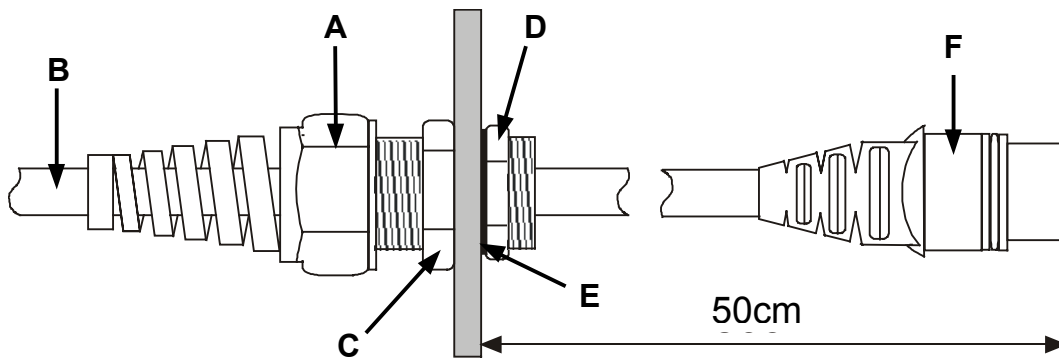

Figure 7-3 Mains Cable Fixing & Length Adjustment
- b) Refer to Figure 7-3. Fully unscrew the cable grip (A) and slide it back over the mains lead (B). Slacken the large plastic nut (C) on the outside of the bed to partially release the mains lead assembly from the deck fabrication.
- c) Unscrew the metal nut (D). Pass the mains lead through the slot in the cable channel and remove the complete mains lead assembly from the bed.
- a) Refer to Figure 7-3. Pass the mains lead assembly (06-1)/(06-2)/(06-3) through the hole in the deck fabrication, via the slot in the cable channel. Fully unscrew the cable grip (A).
- b) Position the threaded shaft of the flex protector in the fixing hole at the head end of the cable channel. Fully tighten the metal fixing nut (D) with the rubber washer (E) underneath it.
- c) Adjust the length of cable inboard of the fixing hole to approximately 50cm including the IEC connector (F) as shown. Tighten the cord grip screw (A) to secure the cable in position.